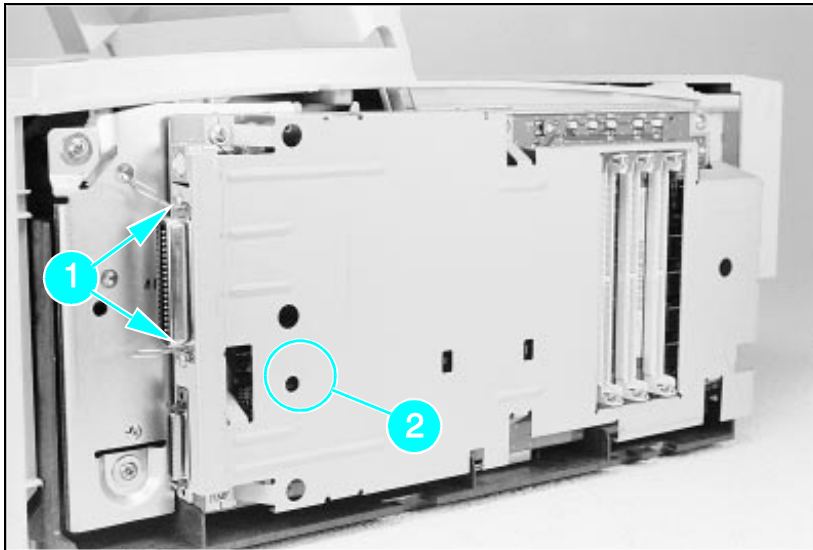

Figure 21 TORX Screw Locations.
There are two TORX screws holding the I/O connector in position (Callout 1 in Figure 21). These are the only two TORX screws in the HP LaserJet 5P printer. Note also the location of the test print button hole (Callout 2) on the side of the formatter board cover.
5. To separate the formatter PCA from its shield, remove the two screws (refer to callout **1** in Figure 21).